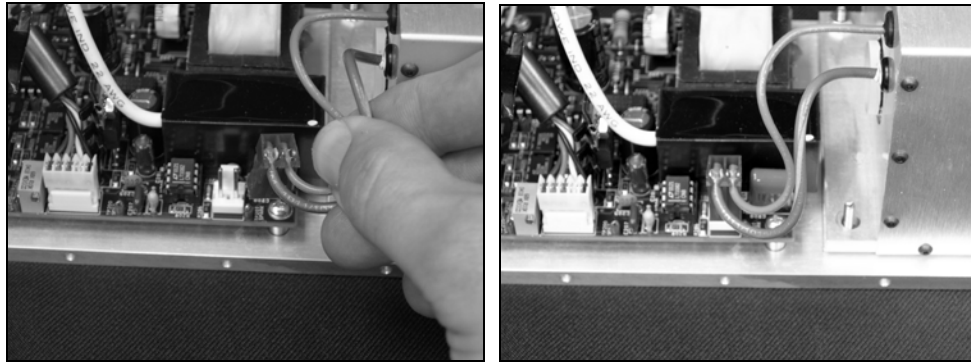

Figure 23. Reconnect ground and monitor line connector.
7. Connect ground and monitor line connector plug to the power supply board, as shown in Figure 23. Notice that both the cartridge connector and the circuit board header are polarized. Take care to ensure proper orientation of the cartridge connector.